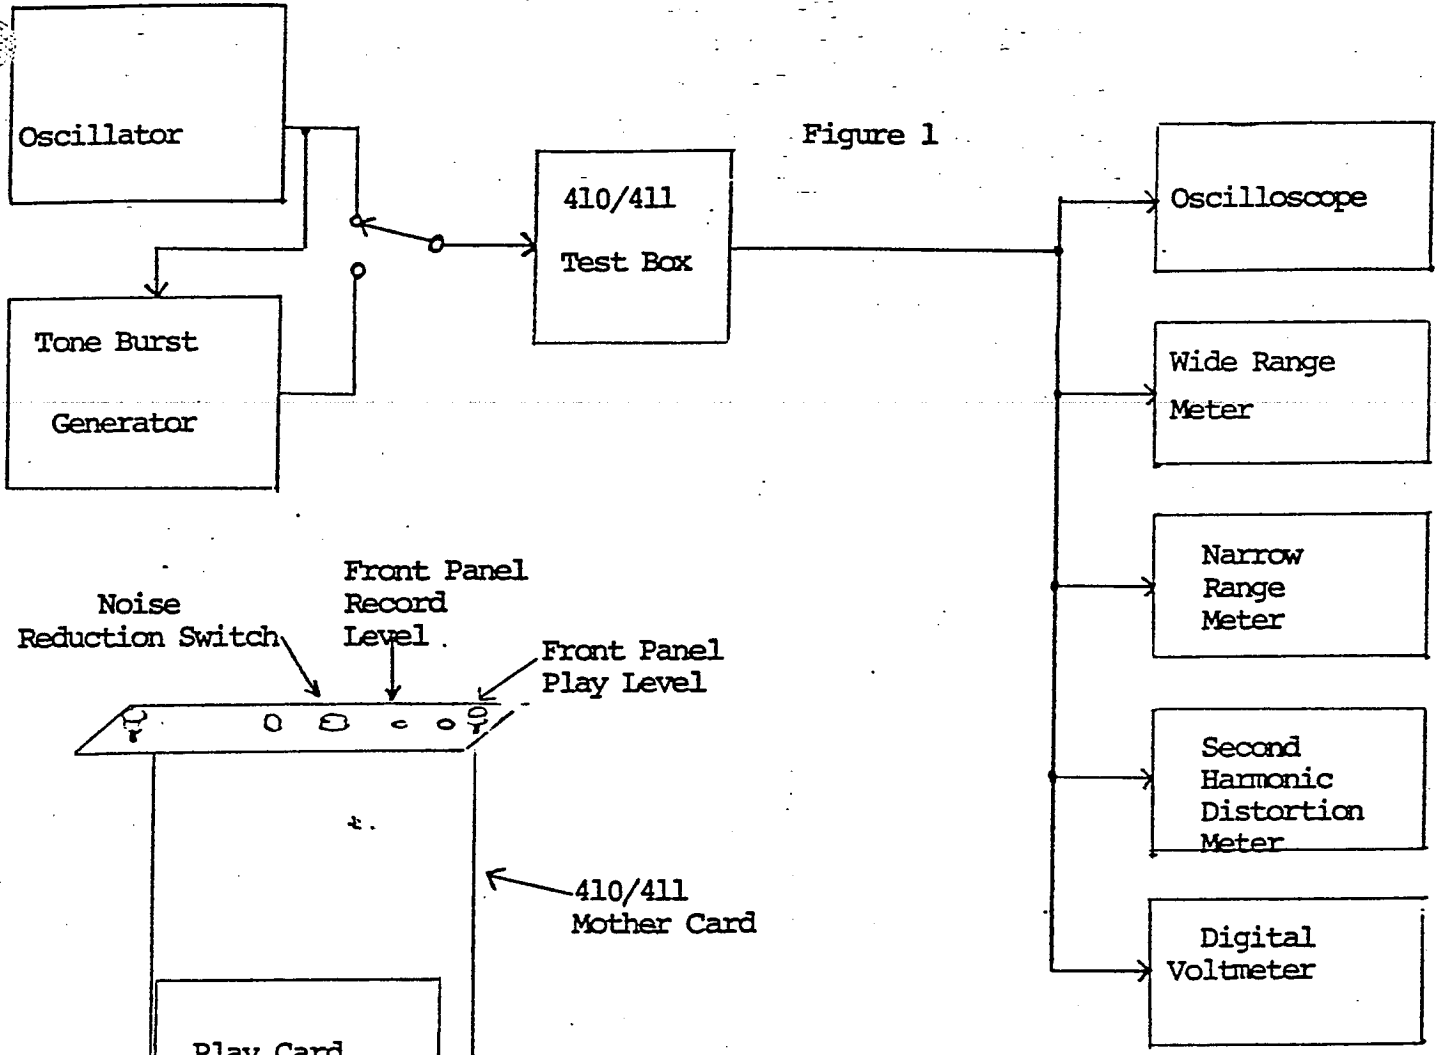

Figure 1
- a) Use Figure 1 as a guide to connecting the test equipment.